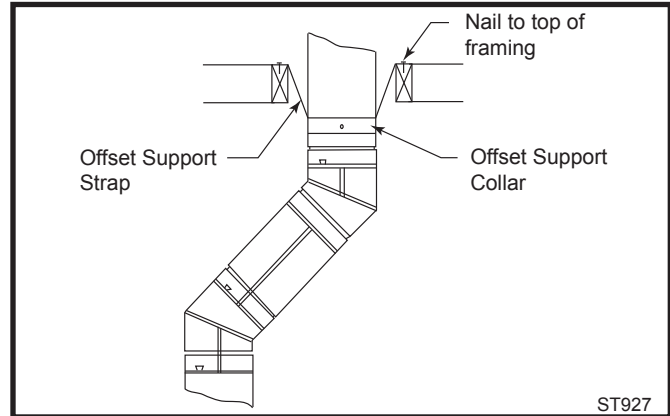

Fig. 37 Offset support.
If any offsets are necessary in the vertical system, an Offset Support (OS) should be installed directly above the upper elbow of the offset. Install by attaching the offset support band to the pipe with two #8 x 1/4" sheet metal screws (minimum) and secure the offset support straps to surrounding structure. (Fig. 37)